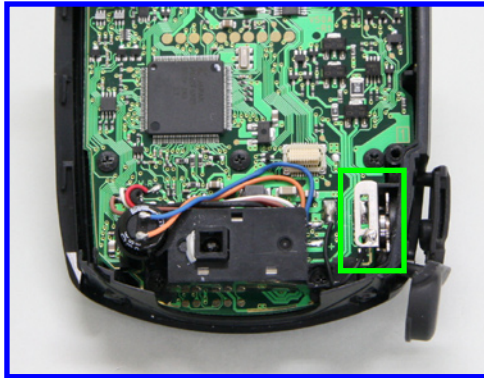

Fig. 017 Cover Lock Plate
- ① Disconnect the lead wires from the Cover Lock Plate. (Soldered at one location)
- ② Push on the back side of the Cover Lock Plate. (Fig. 017)
- ③ Remove the Bracket Holder Plate.